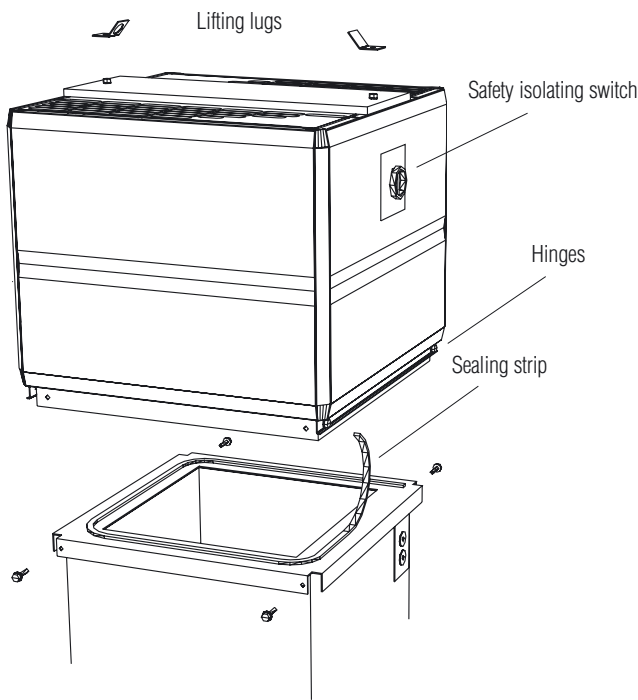

Fig. 1
1. Fit the sealing strip supplied, to the top edge of the roof duct as shown in Figure 1.
2. Lift the STEF or STOF power roof ventilator onto the roof duct. Use the lifting lugs supplied, if necessary. See Figure 1.
- the safety isolating switch on the ventilator and that the cable gland on the roof duct are on the same side. This determines the position of the hinges. See Figure 1.